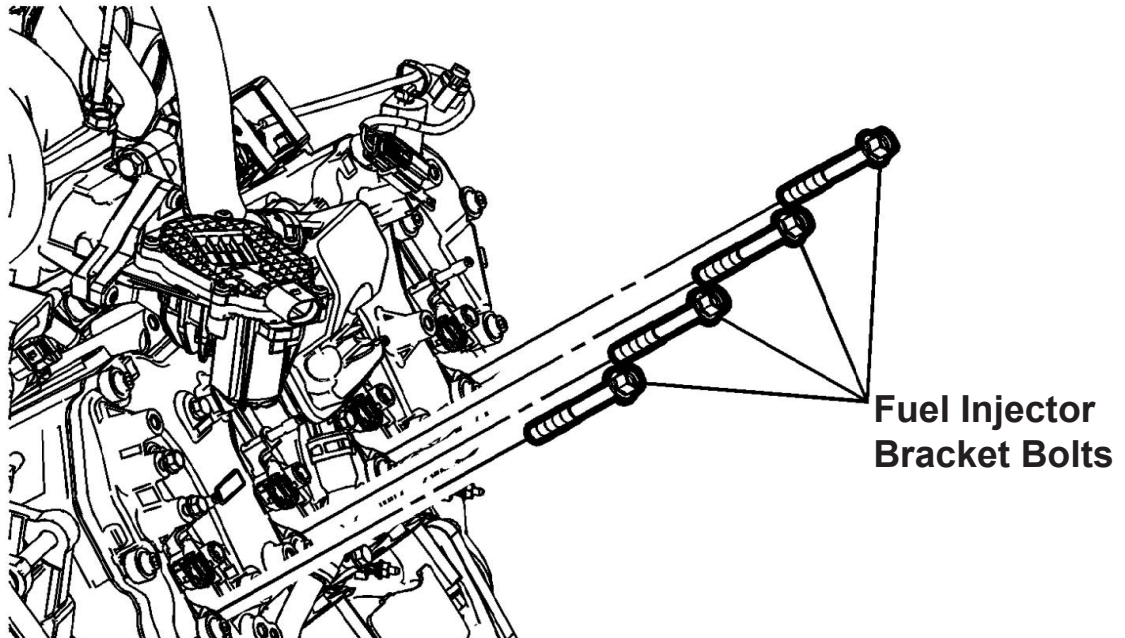

Figure 3
4. Remove the fuel injector bracket bolts. See Figure 3.
8. Reinstall the fuel injector bracket bolts. See Figure 3.